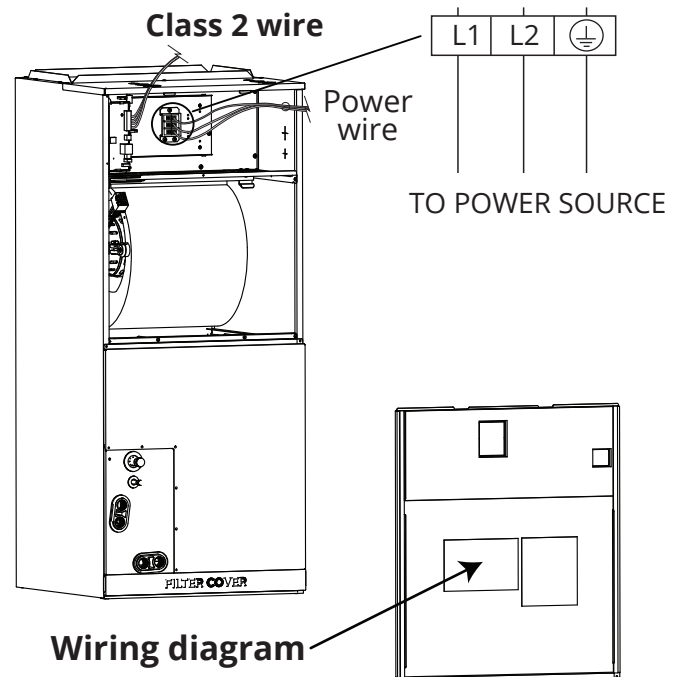

Fig. 7.2
5. Then, you will connect the wires to the terminal block. The wires should be colored/labeled and correspond with a connection port on the terminal block. Match up each wire with the correct port, and firmly screw the u-lug of each wire to its corresponding terminal. Refer to the unit serial number and the wiring diagram located on the electric control box cover (Fig. 7.2).